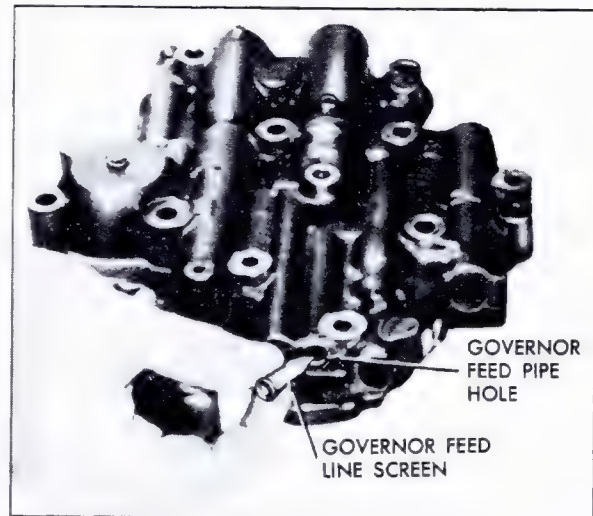

Fig. 7-66 Removing Governor Feed Line Screen
14. Remove governor oil feed screen assembly from governor oil feed hole in control valve body, Fig. 7-66.
24. Install governor oil feed screen assembly in governor oil feed hole in control valve assembly, Fig. 7-66.